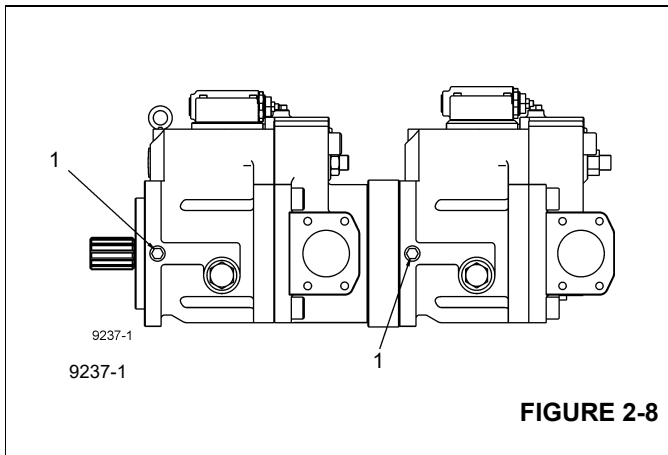

FIGURE 2-8
3. Remove the plug from pump port T air (1, Figure 2-8).